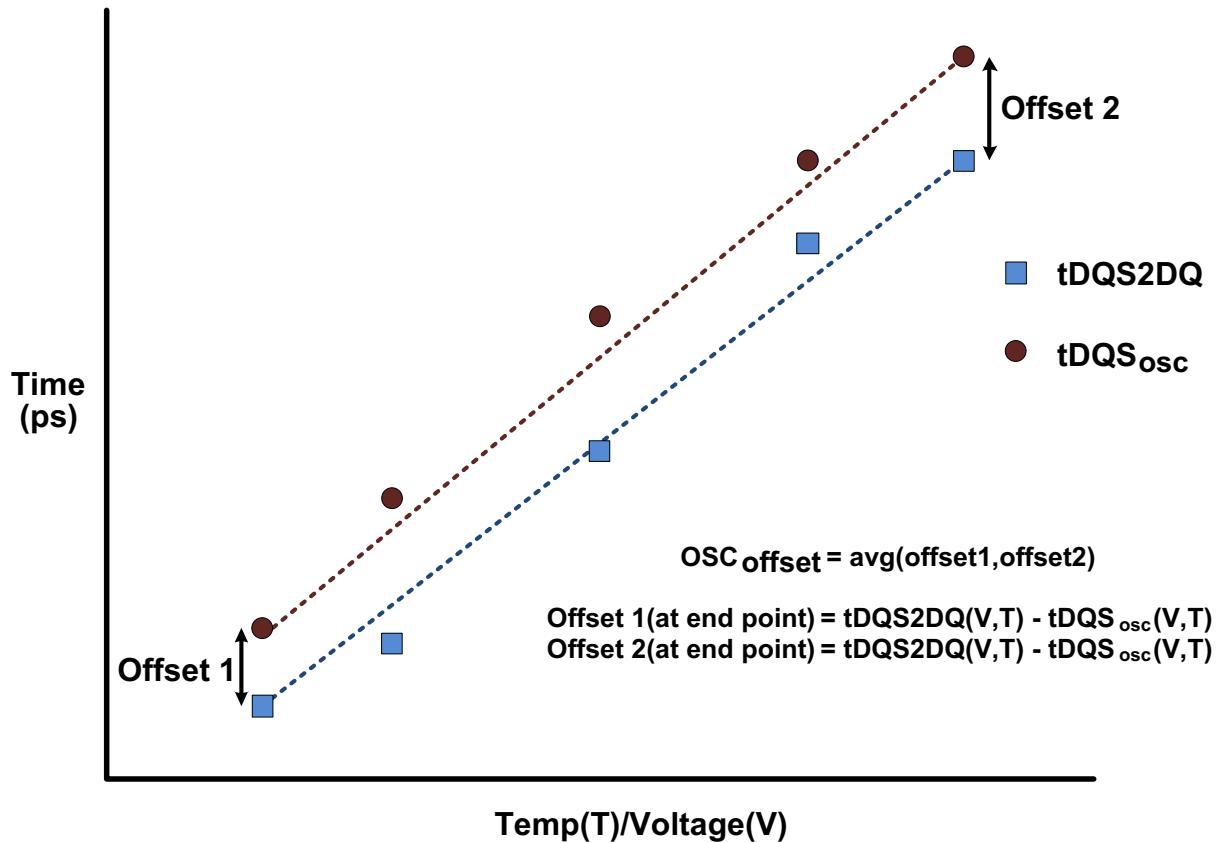

Figure 119 — Interval oscillator offset OSCoffset
- OSCOffset: Average delay difference over voltage and temp (shown in Figure119)